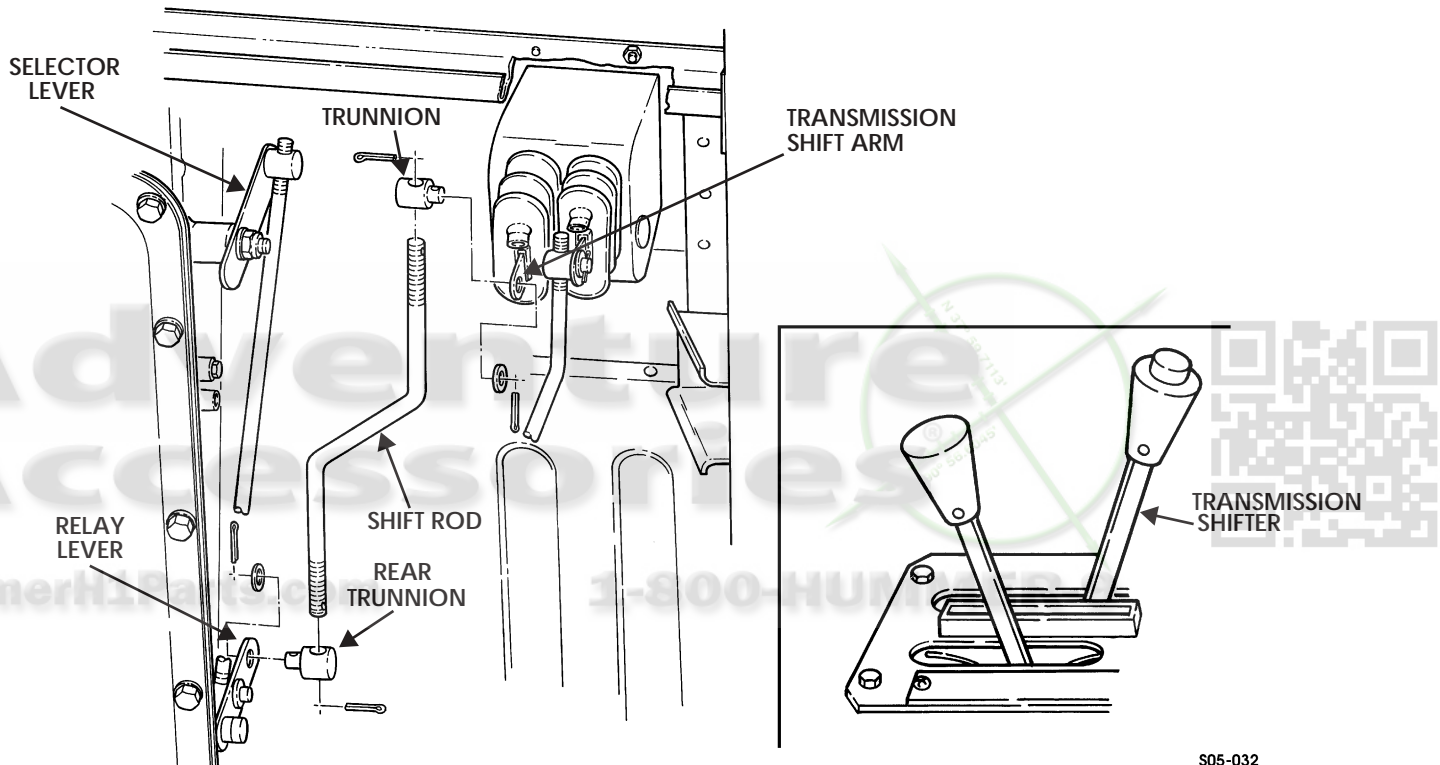

Figure 5-88: Transmission Shift Rod
1. Place transmission shift arm in neutral (Figure 5-88).
1. Install two trunnions and cotter pins on shift rod to positions marked (Figure 5-88).
NOTE: Proper adjustment ensures end of shift rod movement is parallel to relay lever movement (Figure 5-88).
1. Move shifter to 1 (LOW) position and ensure selector lever is in forward detent position 1 or LOW. If not, remove cotter pin and washer, and turn trunnion until trunnion aligns with shift arm. Install cotter pin and washer (Figure 5-88).